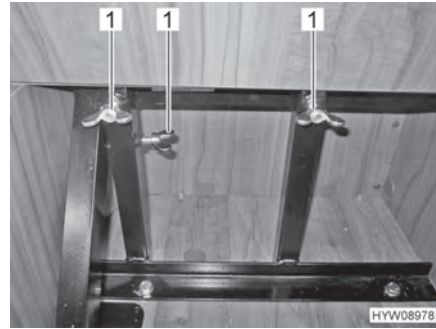

Fig. 17 Secure the attachable seat with wing nuts
- Secure the attachable seat with wing nuts (Fig. 17,1).